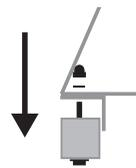

Figure 3
- 3: Put on the spring lock washer and the cap nut and tighten by using a 13 mm wrench, see figure 3.